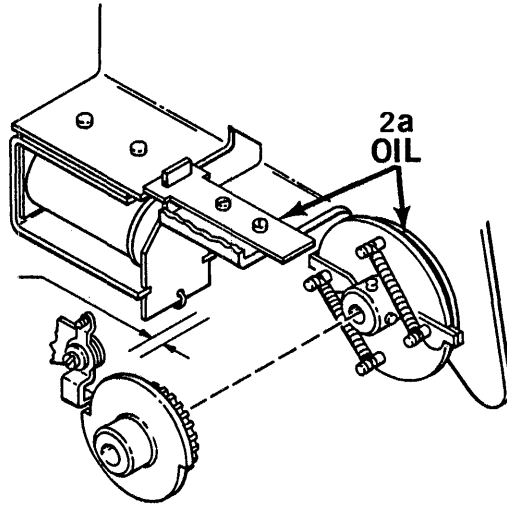

Figure 6-2.. PAPER FEED ASSEMBLY
- a. Apply a drop of lightweight oil on the paper feed clutch gear and clutch slide pawl attached to the solenoid armature. (Oil is intended for clutch bearing lubrication). (See Figure 6-2).